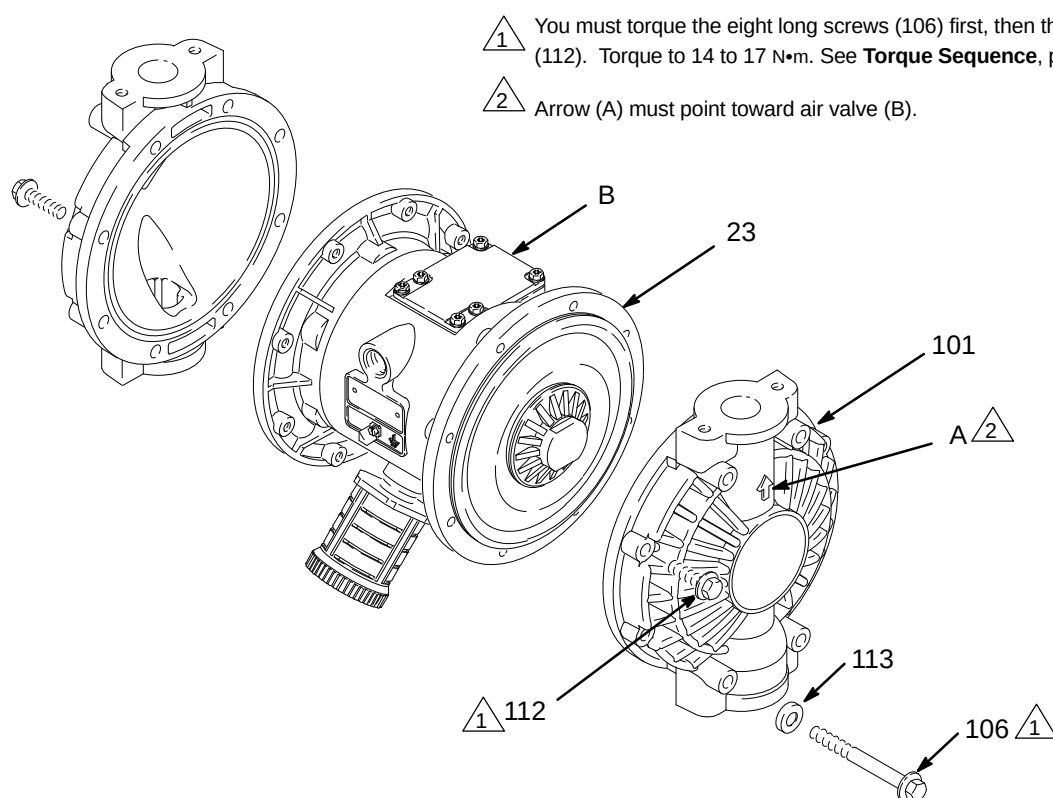
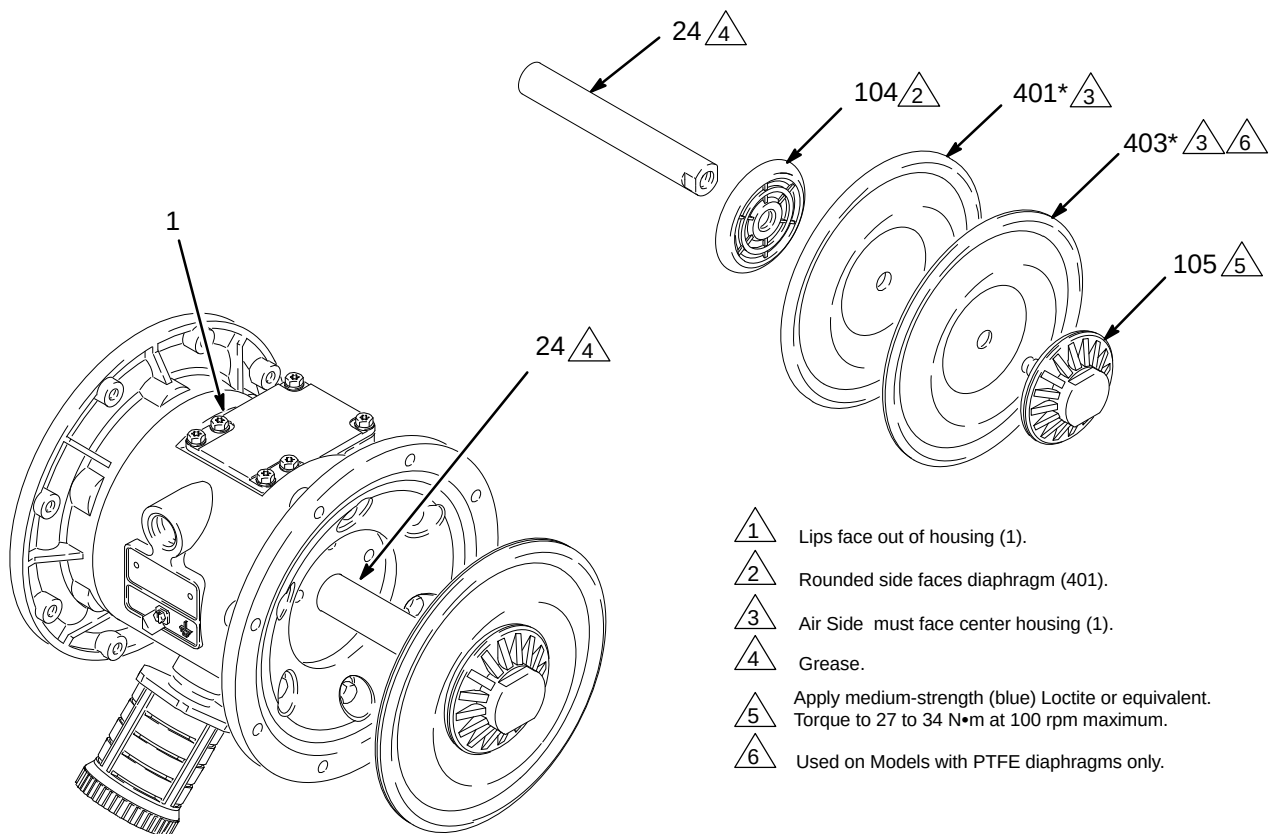

Fig. 12
Fig. 13
3. Using a 10 mm socket wrench, remove the screws (106 and 112) holding the fluid covers (101) to the air covers (23). Pull the fluid covers (101) off the pump. See Fig. 12.
4. Unscrew one outer plate (105) from the diaphragm shaft (24). Remove one diaphragm (401), and the inner plate (104). See Fig. 13.
1. Grease the shaft u-cup packings (402*) and install them so the lips face **out** of the housing (1). See Fig. 13.
2. Grease the length and ends of the diaphragm shaft (24), and slide it through the housing (1).
3. Assemble the inner diaphragm plates (104), diaphragms (401*), PTFE diaphragms (403*, if present), and outer diaphragm plates (105) *exactly* as shown in Fig. 13. These parts **must** be assembled correctly.
4. Apply medium strength (blue) Loctite® or equivalent to the threads of the fluid-side plates (105). Hold one of the outer plates (105) with a wrench, and torque the other outer plate to 27 to 34 N•m at 100 rpm max. Do not over-torque.
5. Align the fluid covers (101) and the center housing (1) so the arrows (A) on the covers face the same direction as the air valve (B). Secure the covers with the screws (106 and 112), handtight. Place the bolt caps (113*) on the longer screws (106), and install the longer screws in the top and bottom holes of the covers. See Fig. 12.
6. First, torque the longer screws (106) oppositely and evenly to 14 to 17 N•m, using a 10 mm socket wrench. Then torque the shorter screws (112). See **Torque Sequence**, page 30.
6. Remove the air cover gaskets (22). Always replace the gaskets with new ones.
7. Use a bearing puller to remove the diaphragm shaft bearings (19), air valve bearings (12) or pilot pin bearings (15). Do not remove undamaged bearings.
8. If you removed the diaphragm shaft bearings (19), reach into the center housing (1) with an o-ring pick and hook the u-cup packings (402), then pull them out of the housing. Inspect the packings. See Fig. 13.